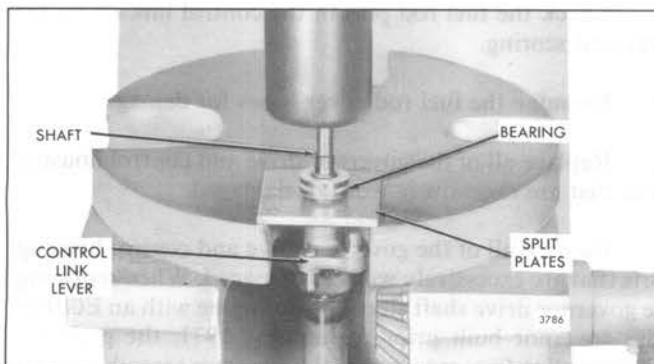

Fig. 11 - Removing Bearing from Control Link Lever Shaft
- c. Place two split plates between the bearing and the lever, then support the split plates, lever, shaft and bearing assembly on the bed of an arbor press as shown in Fig. 11. Press the shaft from the bearing.